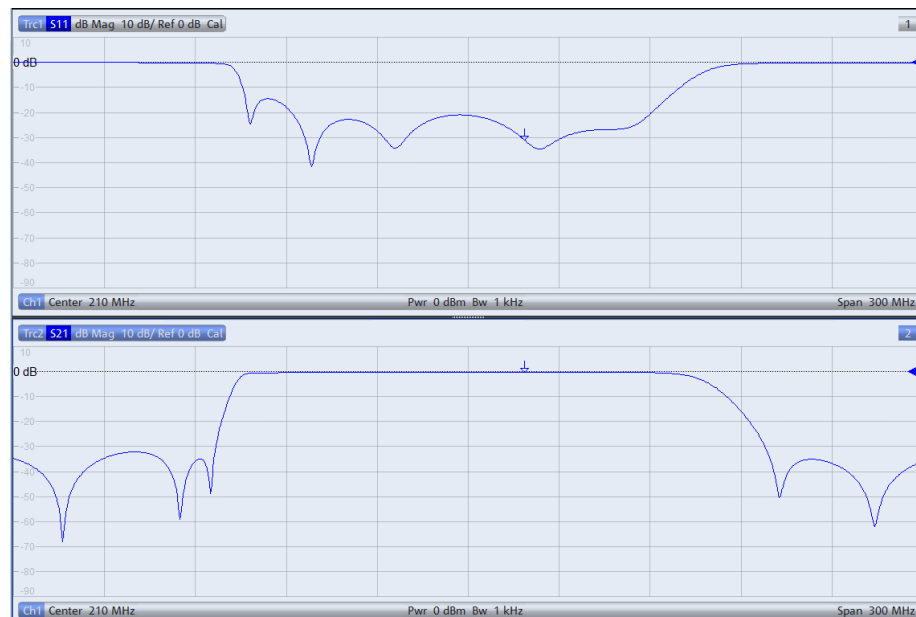

Fig. 2-30: Bandpass filter measurement with display of reflection and transmission.
- The reflection (S_{11}) is shown in the upper half of the split screen and the transmission (S_{21}) in the lower half (Fig. 2-30). Press the *SCALE* key and adjust the y-axis scaling as needed.